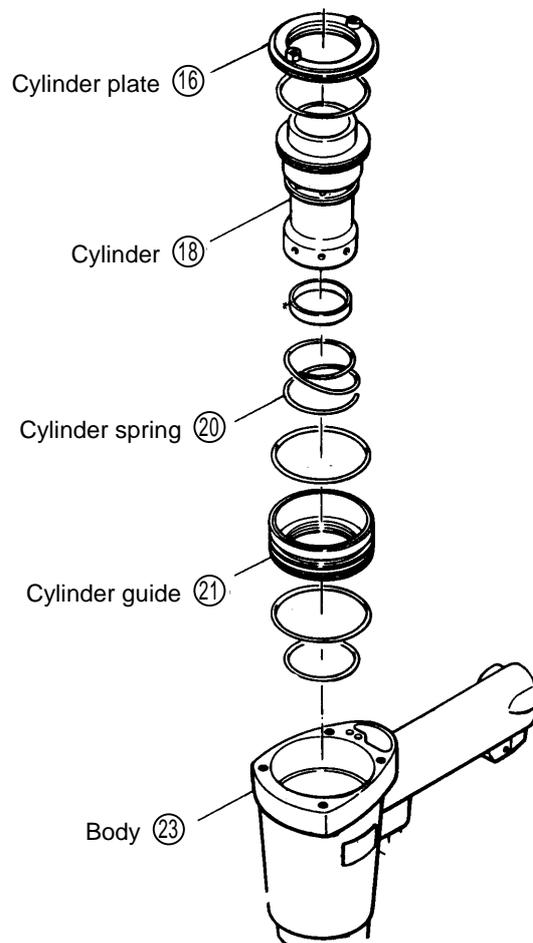

Fig. 13 Main body output disassembly
The Cylinder Spring (20) and other components which constitute the Output Section (see Fig. 13) can then be removed.
- Should it be difficult to remove the Cylinder (18), first remove the Tail Cover (36), and push the Cylinder upwards and out from below.
(2) Assembly: